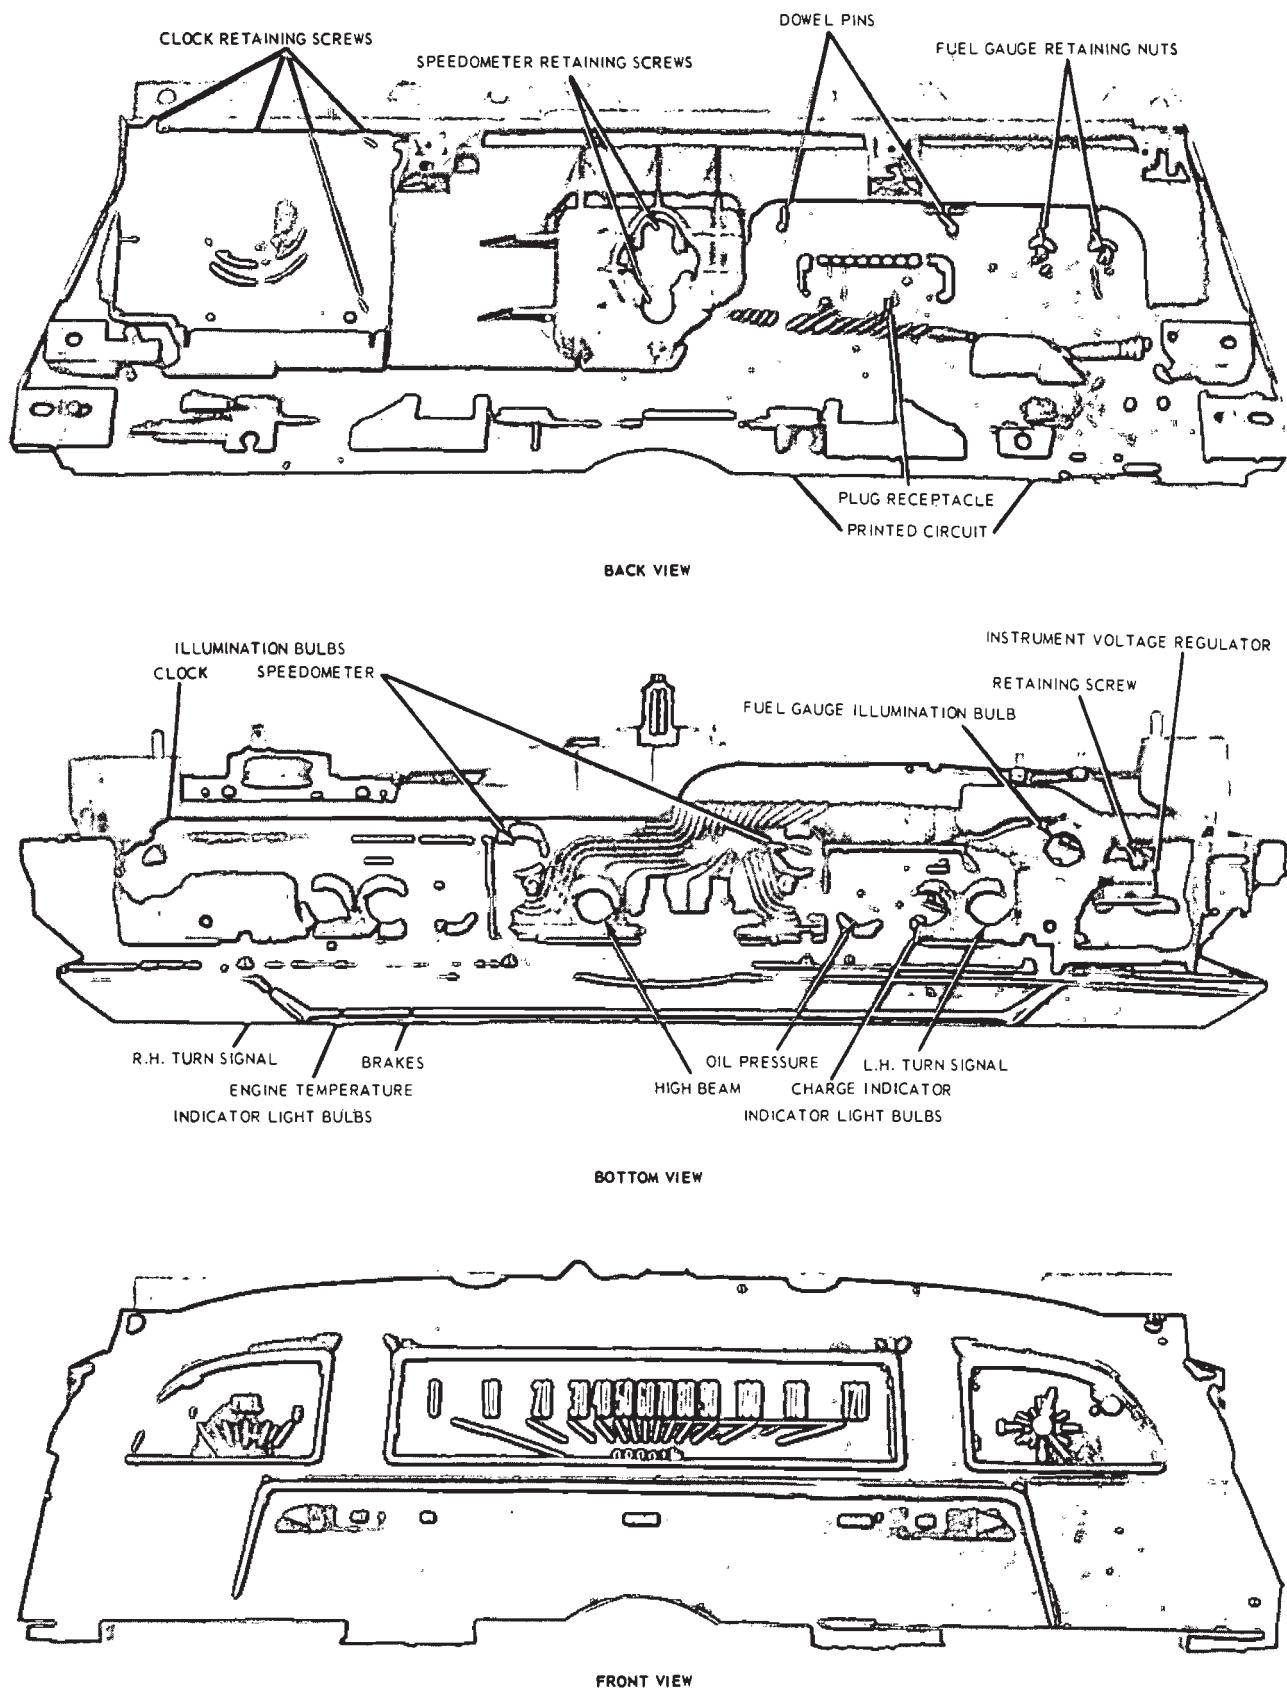
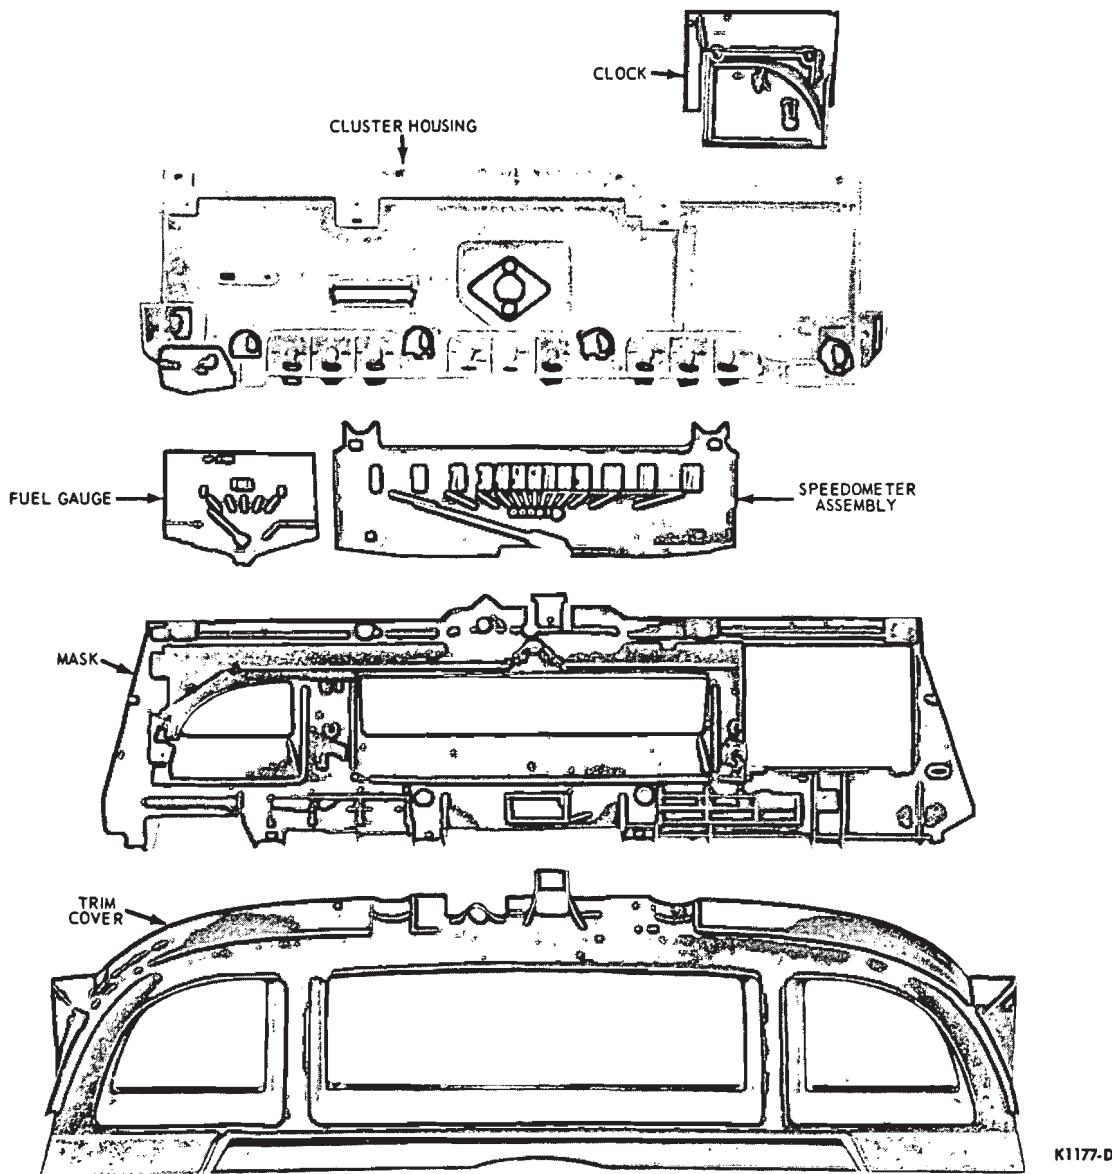

FIG. 17—Montego Instrument Cluster
FIG. 18—Montego Instrument Cluster—Disassembled
To gain access to the regulator or light bulbs, remove the left finish panel (two retaining screws) at the lower edge of the instrument cluster. This panel can be identified by the Lights and Wiper/Washer labels. After removing the finish panel, these parts can be removed from the bottom of the cluster by reaching under the instrument panel (Bottom view, Fig. 17).
Remove the heater control and left finish panels and the instrument panel pad as outlined in Part 47-03. From the front of the cluster, remove the four cluster-to-instrument panel retaining screws and position the cluster part way out of the panel. Disconnect the speedometer cable and the cluster feed plug from its receptacle in the printed circuit (Back view, Fig. 17). Disconnect the electrical plug to the clock and remove the cluster.
Remove the instrument cluster from the instrument panel as outlined in the foregoing procedure. Remove the plastic cover from the fuel gauge mounting studs. Remove the fuel gauge retaining nuts (back view, Fig. 17), the voltage regulator retaining screw and the light bulbs (bottom
view, Fig. 17) all of which retain the printed circuit to the cluster. Remove the printed circuit from the cluster and disconnect (snap off) the printed circuit connector buttons from the voltage regulator.
When installing the printed circuit be sure to properly position it over the locating dowels on the back and bottom of the cluster (Fig. 17).
Remove the instrument cluster from the instrument panel as outlined under Instrument Panel. Remove the four clock-to-cluster retaining screws at the back side of the cluster and withdraw the clock from the rear of the cluster (Figs. 17 and 18).
2. Remove the cluster trim cover (seven retaining screws) from the front of the cluster (Fig. 18).
3. Remove the four rubber spacers that hold the lens assembly to the mask and remove the lens from the mask (Fig. 18).
5. Remove the mask and lens assembly from the instrument cluster (eight retaining screws) (Fig. 18).
6. To replace the speedometer assembly, remove the retaining screws at the back of the cluster (Back view, Fig. 17) and pull the speedometer from the front of the cluster housing (Fig. 18).
When installing the speedometer, insert the cable connection through the opening from the front of the cluster housing and position it so that the screw holes match (Fig. 18). Install the retaining screws from the back side of the cluster (Fig. 17).
mounting studs and remove the retaining nuts from the back of the cluster (back view, Fig. 17). Remove the gauge from the front of the cluster housing (Fig. 18).
8. Install the mask and lens assembly (Fig. 18) to the cluster housing (eight retaining screws).